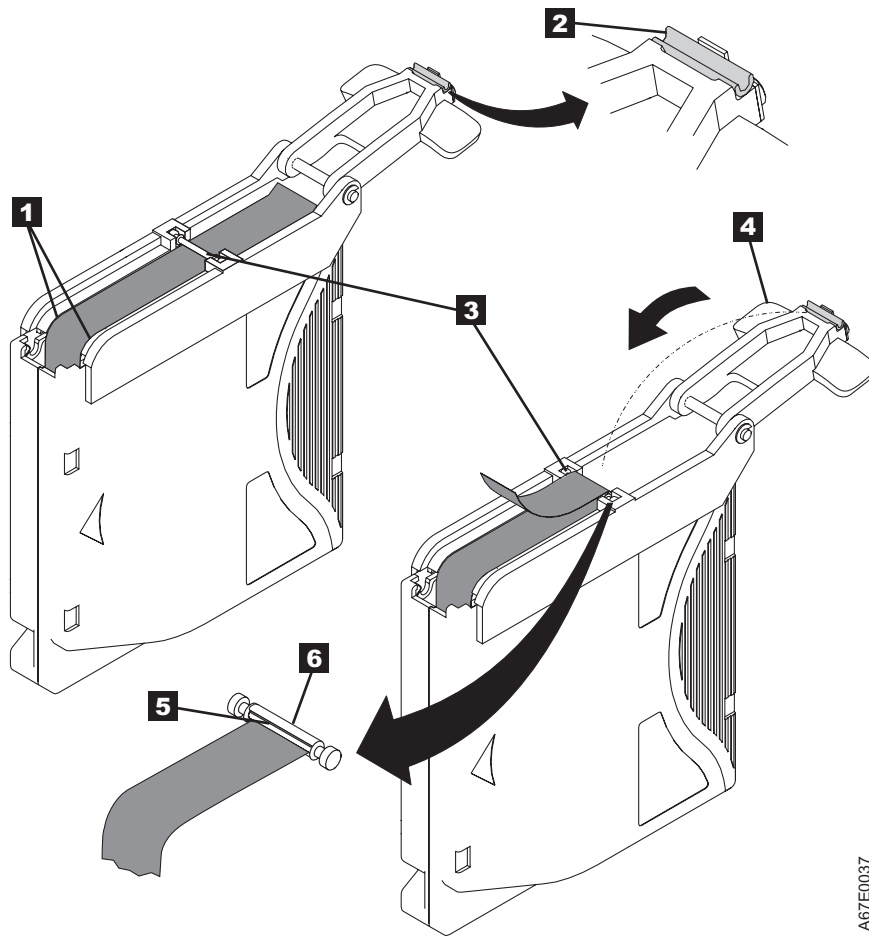

Figure 4-15. Attaching the leader pin to the tape
7. Position the tape in the alignment groove of the leader pin attach tool (see **1** in Figure 4-15 on page 4-16).
8. Place a new C-clip into the retention groove **2** (Figure 4-15 on page 4-16) on the leader pin attachment tool and make sure that the clip's open side faces up.
9. Place the leader pin (from step 6) into the cavity **3** (Figure 4-15 on page 4-16) of the leader pin attach tool.
10. Fold the tape over the leader pin and hold it with your fingers (see Figure 4-15 on page 4-16).